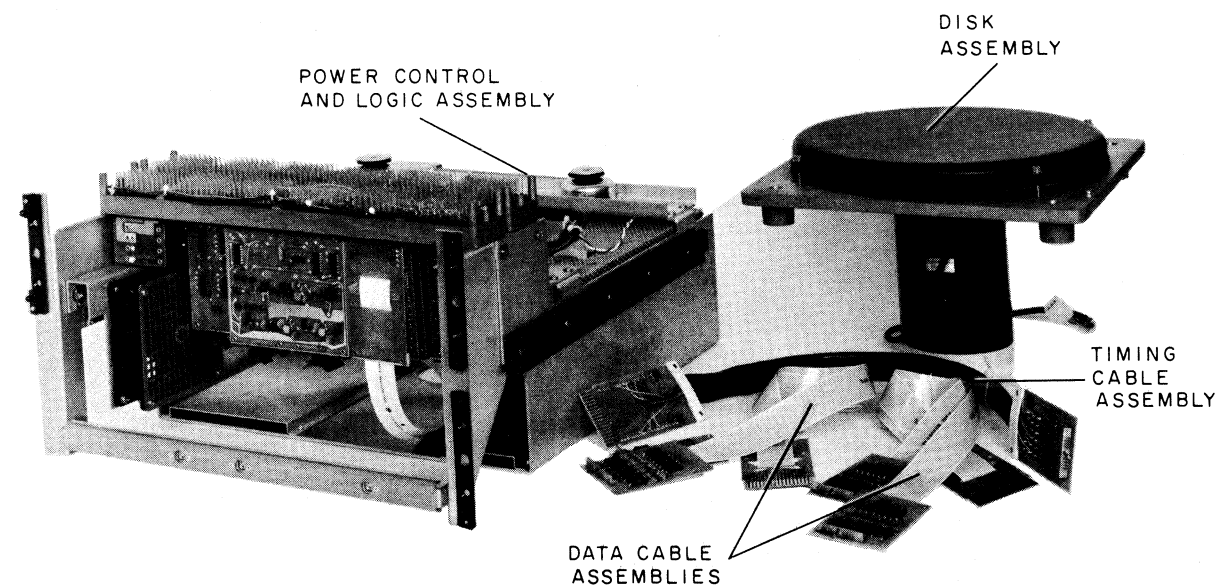

Figure 1-2 RS64 Disk File Major Assemblies*
The disk assembly, Figure 1-2, consists of a 10-in. diameter nickel-cobalt plated aluminum disk, a drive motor, and five head assemblies mounted on a deck plate. The deck plate is supported by four shock mounts. A cover protects the disk and heads from dust and foreign particles. Data connections are made via connectors on the underside of the deck plate. A 4-wire power cord connects the drive motor to the RS64P power control and logic assembly.
1.3.3.5 Data and Timing Cable Assemblies — Two flat Mylar data cable assemblies (Figure 1-2) interconnect the data track heads with the read/write logic. Each data cable assembly handles the signals for two head shoe assemblies; it has two 8-track matrix-connector modules at the head end. One timing matrix cable assembly (Figure 1-2) interconnects the timing heads with the read/write logic. This cable has a 6-track matrix module at the disk end and a connector module at the logic end.